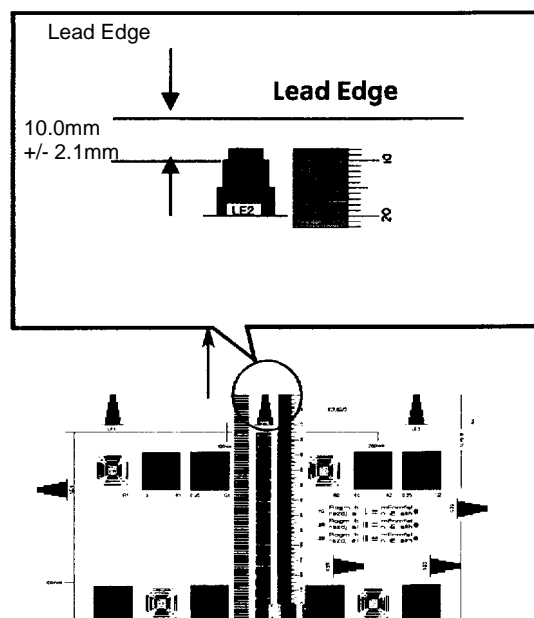

Figure 1 Checking IIT Side Registration
2. On the 2nd copy, check that the distance from the lead edge to the top of Step 3 on the LE2 scale is 10.0mm +/- 2.1mm (Figure 1).